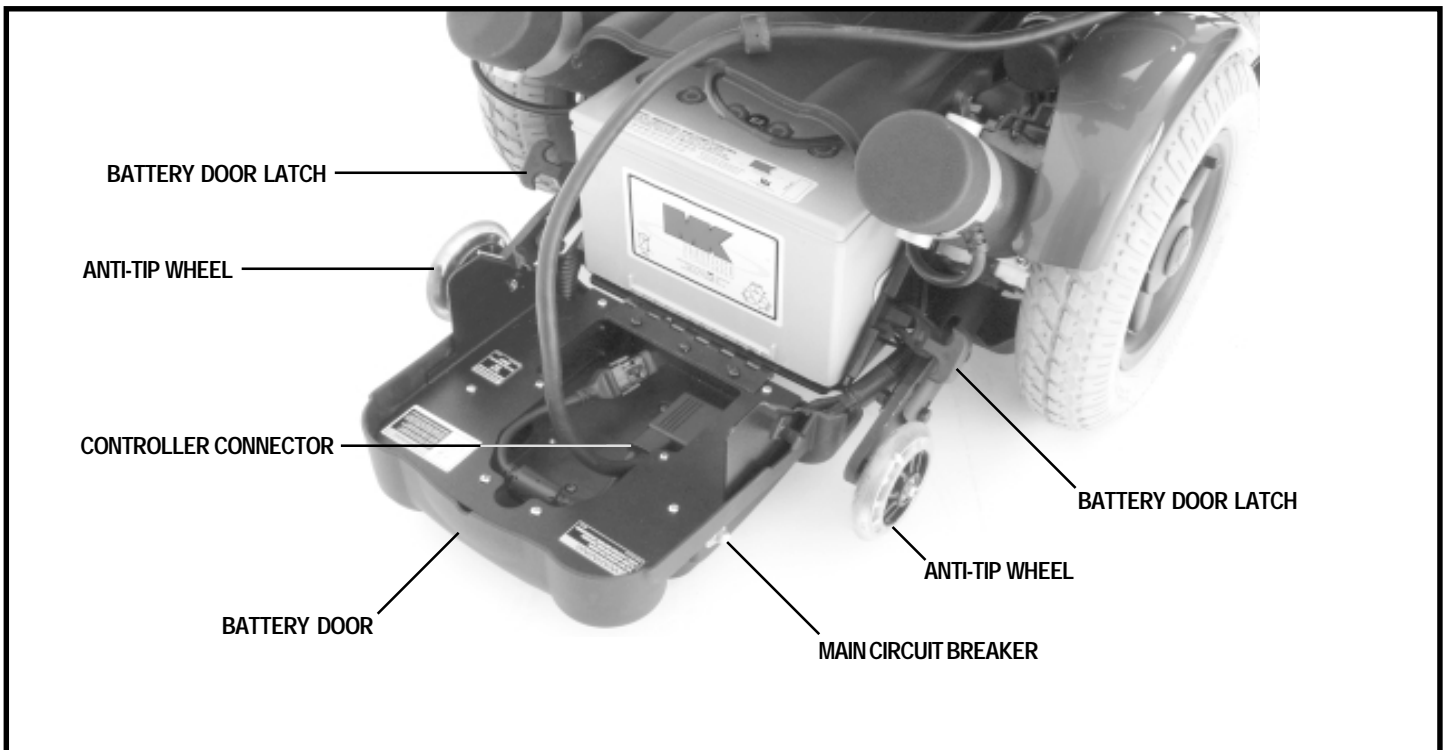

Figure 6. The Vibe Power Base (Rear View - Battery Door Down)
The electrical components are located on the battery door at the back of the power base. See figure 6.
2. Open the battery door and unplug the controller connector from the back of the power base. See figure 6.